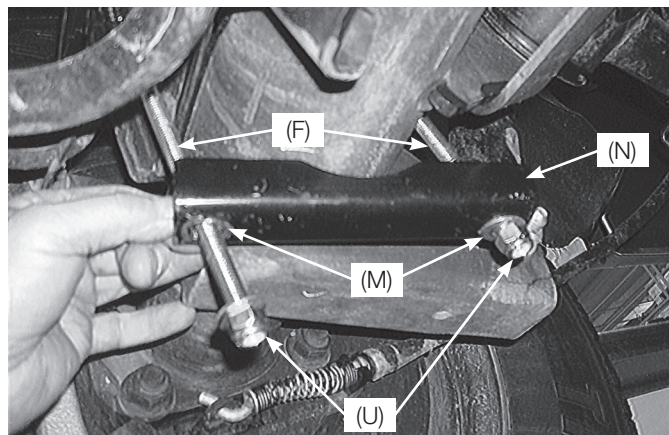

fig. 18
5. Set the clamp bar (N) over the two long carriage bolts (F) under the axle and cap with two 3/8" flat washers (M) and 3/8" nylon lock nut (U) (Fig. 18).